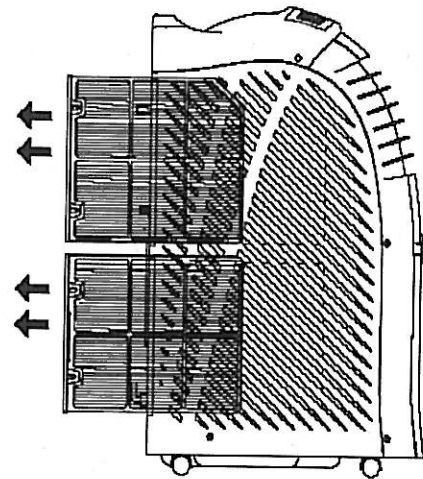

Fig. 11
- 1) Pull out the air filters (Fig.11)